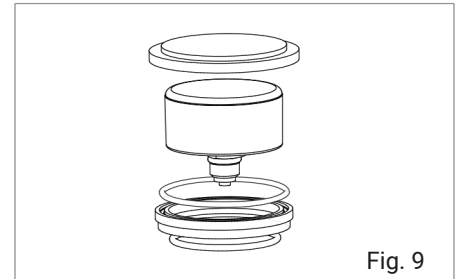

Fig. 9
- 6 Now install the new manometer (17) by placing the larger O-ring (21) in the groove of the new housing ring (22) at the top, placing the slightly smaller O-ring (23) in the manometer holder from below and sliding both over the new manometer from below (Fig. 9).
- 8** When replacing the protective glass (19), you only need to unscrew (step 4) the manometer holder (18) from the air pump casing (9) and replace the existing protection glass with the new one. When inserting the new protective glass, make sure that the small diameter is at the top (Fig. 9).